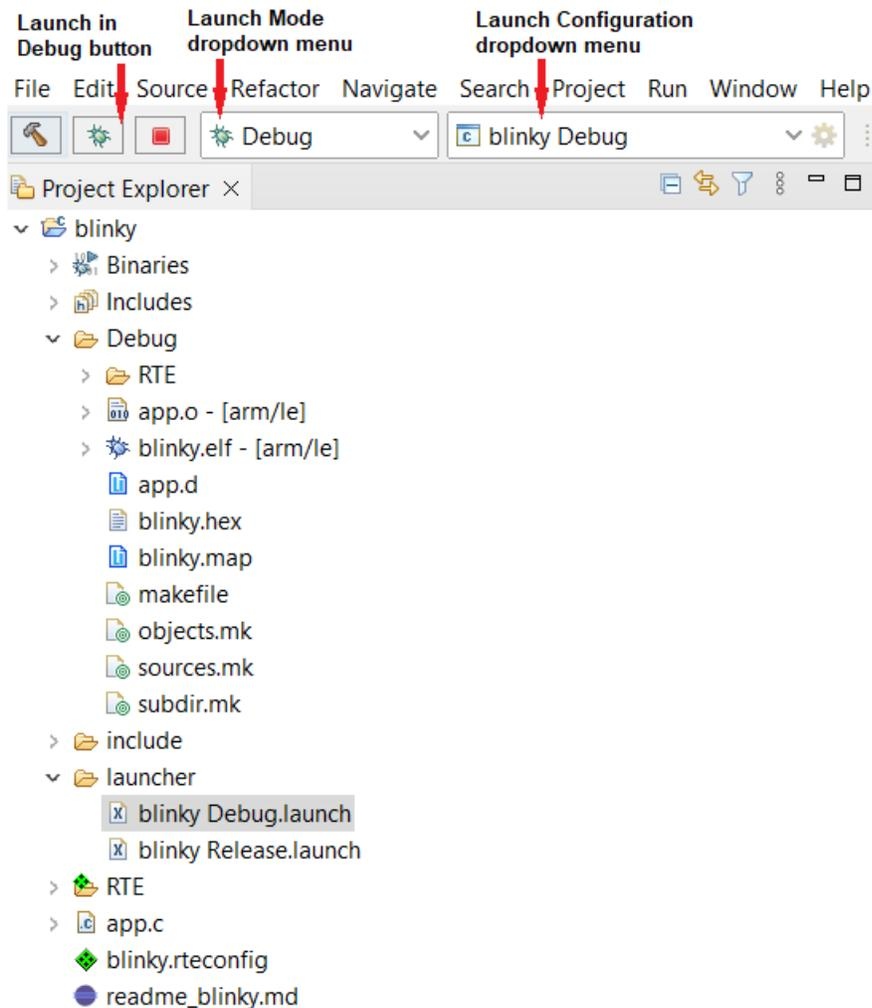

Figure 12. Launching a Debug Session
1. From the **Launch Configuration** dropdown menu, select **blinky Debug**. From the **Launch Mode** dropdown menu, select **Debug**. Both are shown in the "Launching a Debug Session" figure (Figure 12).
2. Press the **Launch in Debug** button (also shown in the "Launching a Debug Session" figure (Figure 12)) to launch the debug session. J-Link downloads the *blinky* sample code to RSL15's flash memory.